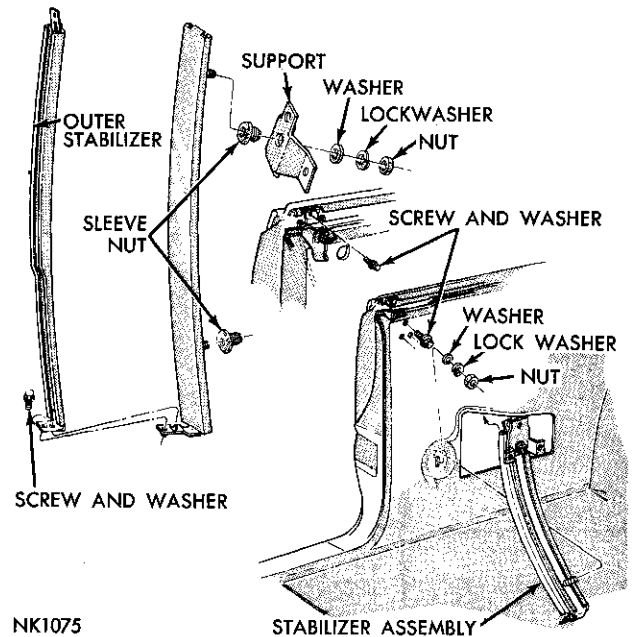

Fig. 111—Quarter Window Stabilizer (Imperial)
(1) Remove the screws and washers attaching the support assembly to the belt reinforcement (Fig. 111).
(2) Remove the nuts and washers attaching the stabilizer stud to the quarter inner panel.
(3) Remove the stabilizer assembly through the large access opening in the quarter panel.
(4) Remove the nut and washers attaching the support assembly to the inner stabilizer and remove the support.
(5) Remove the sleeve nuts from the inner stabilizer studs.
(1) Position the inner stabilizer on the outer stabilizer and install the attaching screw and washer assembly at the lower end (Fig. 111).
(2) Install the sleeve nuts on the inner stabilizer studs.
(3) Position the support assembly on the top sleeve nut and install the retaining nut and washers.
(4) Insert the stabilizer assembly into the quarter panel through the large access opening.
(5) Position the stabilizer to the attachment holes on the upper reinforcement and inside panel.
(6) Insert the bottom stud through the hole in the quarter inner panel and install the retaining washers and nut loosely.
(7) Position the outer stabilizer on the outer support, run the window $\frac{3}{4}$ of the way down and install the attaching screw and washer assembly securely.
(8) Adjust the quarter window and tighten all screws and nuts securely.